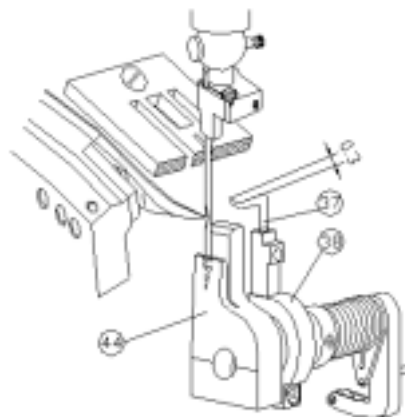

FIG.13
The thread catcher (37) should be mounted in such a way that its tip projects 0.3 mm in front of its shank. FIG. 13.